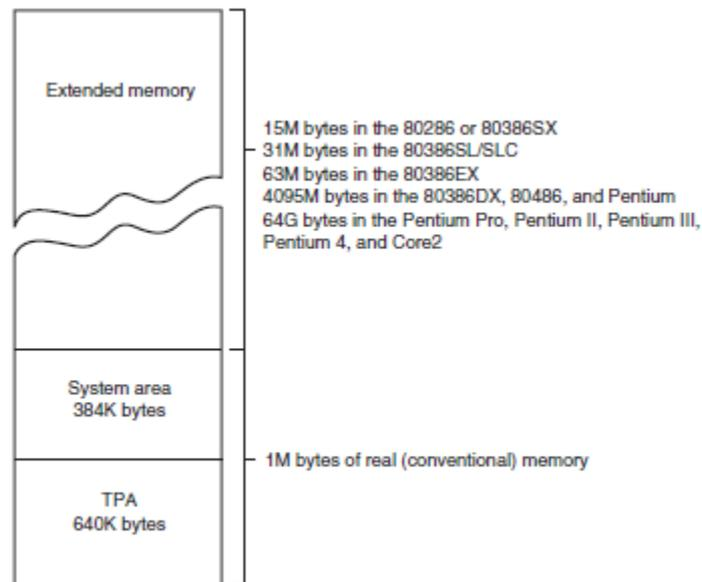

Figure 1-7: The memory map of a personal computer
- If the computer is based upon 8086, the TPA and system-area exist, but there is no extended memory-area(Fig:1-7).